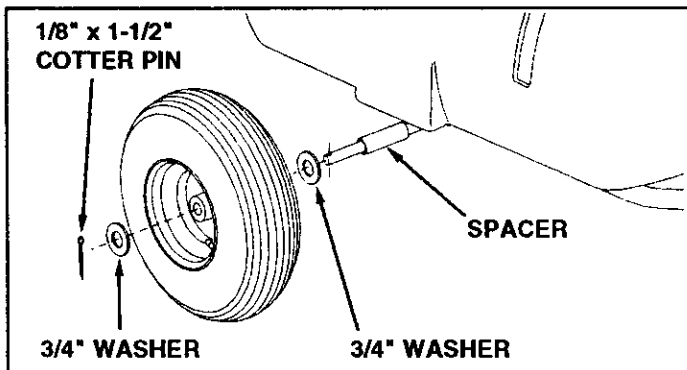

FIGURE 5
- Slide the axle through the axle brackets. See figure 5.
- Assemble a spacer, a 1/2" washer, a wheel (valve stem facing out) and another 1/2" washer onto the axle. Assemble a 1/8" x 1-1/2" cotter pin to the end of the axle. Repeat on other end. See figure 5.